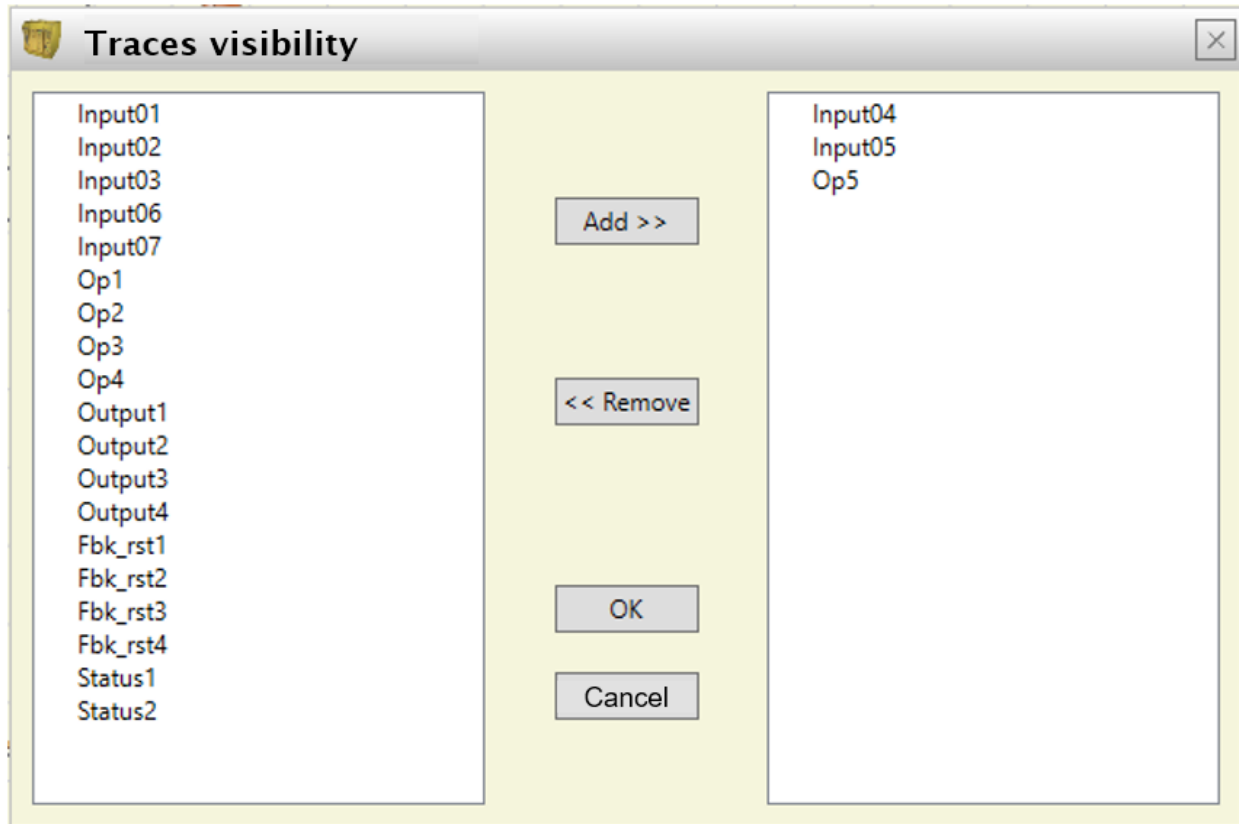

Figure 75 - Traces visibility.
**Traces visibility.** used to select the traces (signal waveforms) to be displayed in the graph. When you press this key, it opens a pop-up window as shown in Figure 75 from which you can add or remove traces to or from the graph.